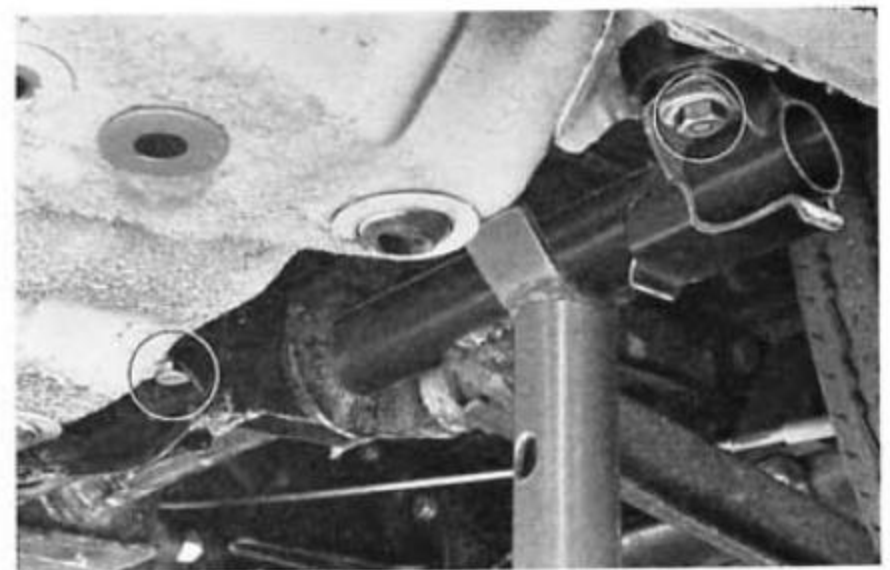

Fig. 17A-18
36. Remove the nuts, body mounting bolts, washers and rubber mounts (Fig. 17A-19).